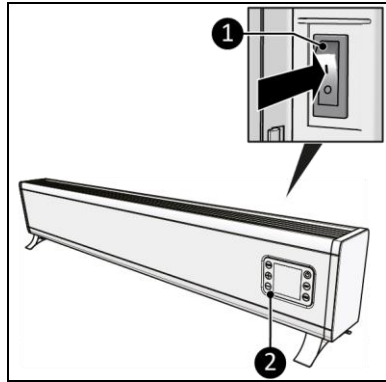

Figure 15
1. Set the ON/OFF switch to the ON position (Figure 15, pos. 1).
2. The display (Figure 15, pos. 2) will show OFF.